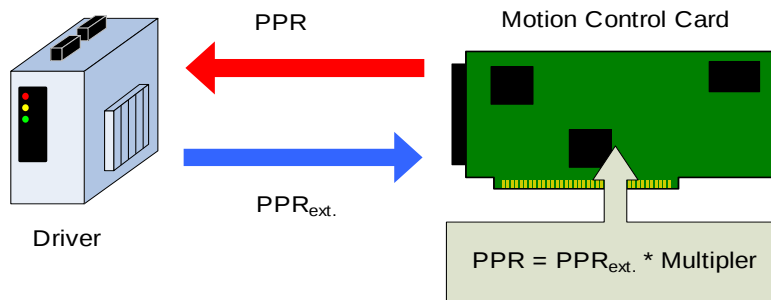

Fig. 3-2
- Multiplier and PPR (Pulse Per Revolution): (Fig.3-2)